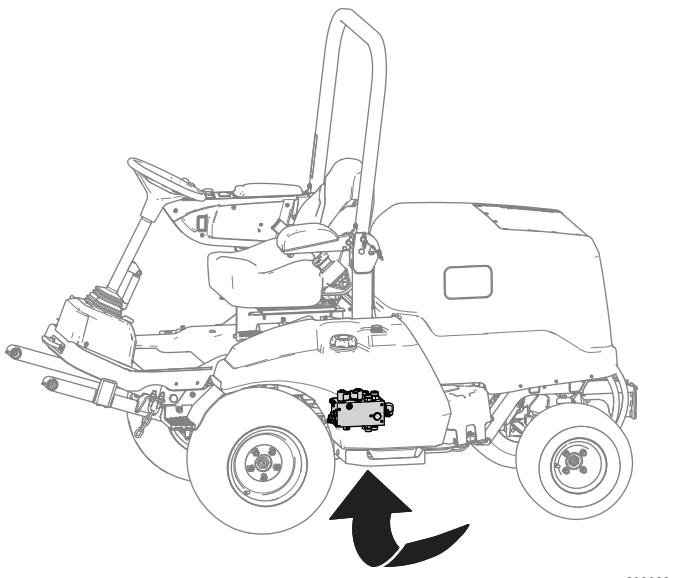

Figure 7
A. Place a drain pan under the hydraulic manifold (shown in Figure 7).